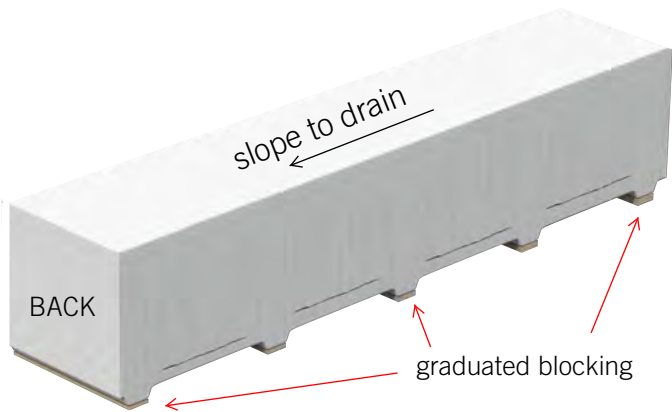

Figure 6.2
6.2 Elevate one end of panel bundles to provide adequate drainage - use graduated blocking under bundle bearing pads as required (figure 6.2).